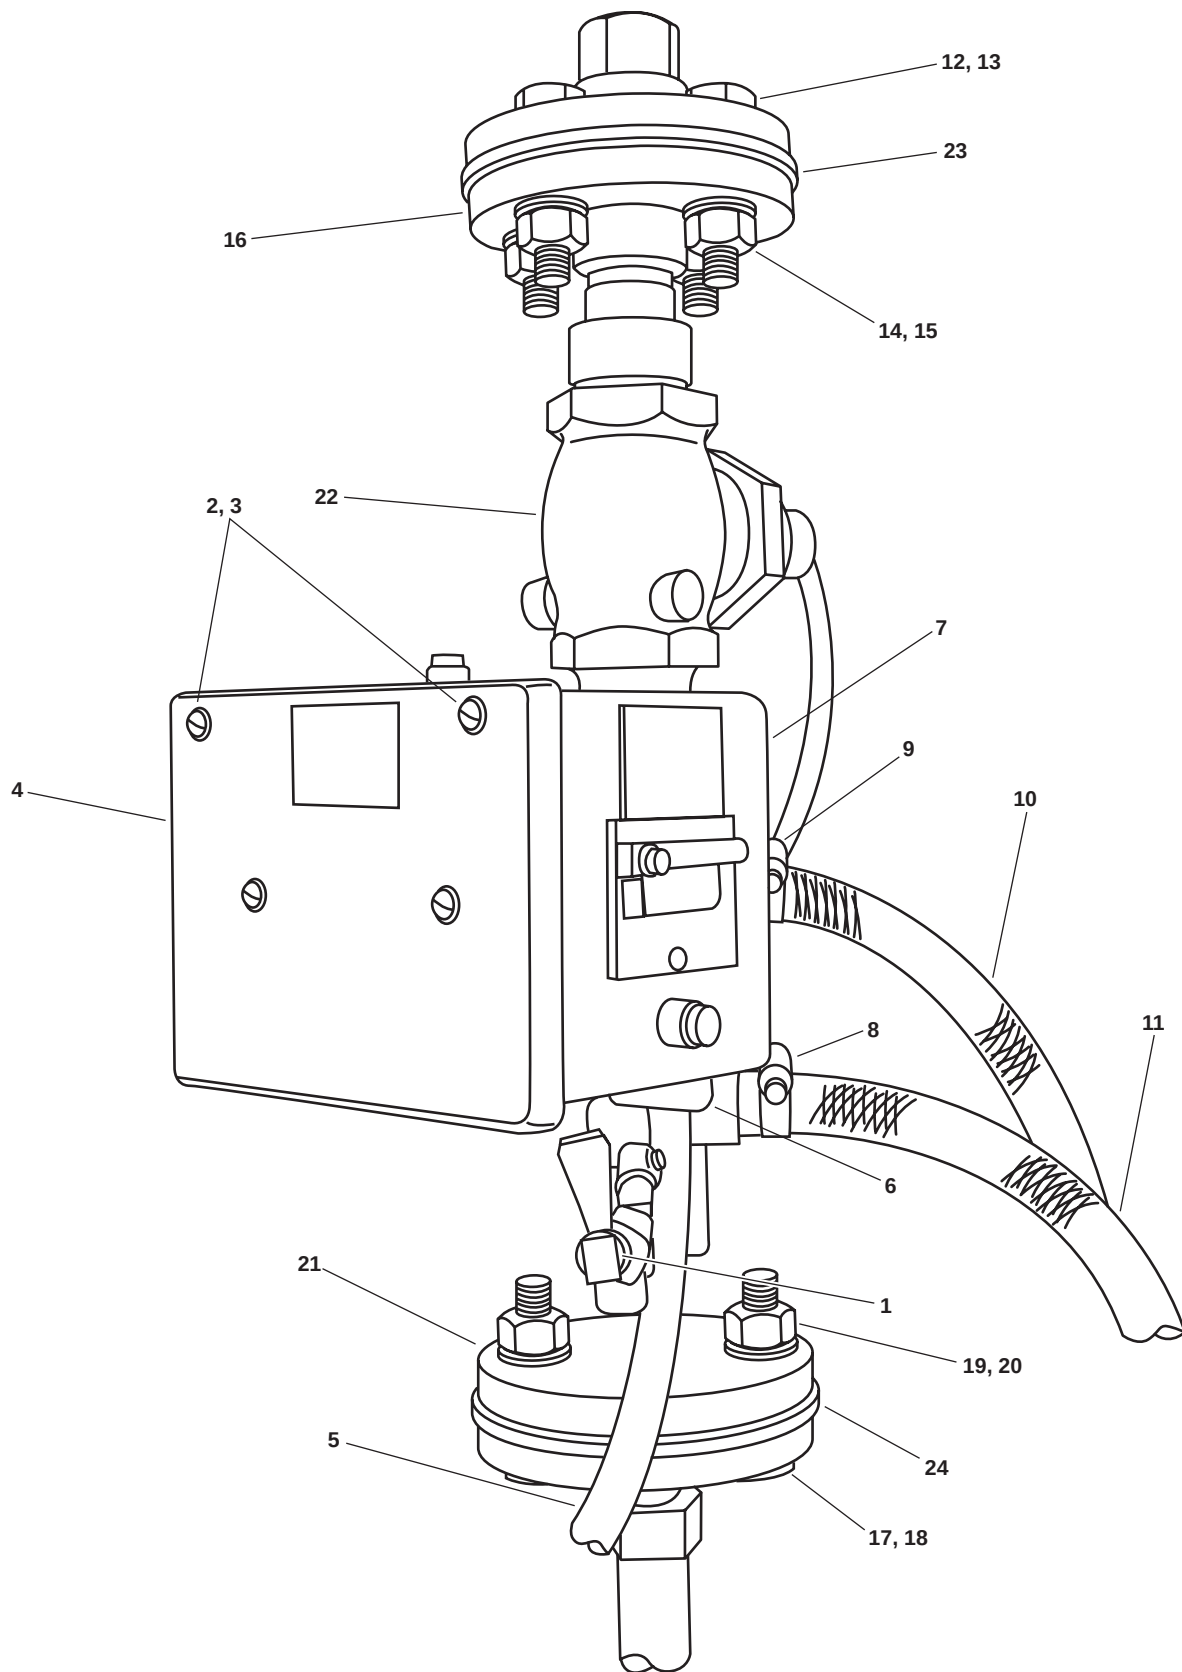

Figure 1. Cartridge Change Indicator/Brominator
1. Place the suitable drain pan under the test tap (figure 1, item 1), and OPEN the test tap.
3. Remove the two screws (figure 1, item 2) and two washers (figure 1, item 3), and OPEN the cartridge change indicator cover (figure 1, item 4).
5. Label and disconnect the electrical wiring (figure 1, item 5).
6. Loosen the screw on the strain relief (figure 1, item 6) and remove the wiring from the cartridge change indicator (figure 1, item 7).
7. Loosen the two hose clamps (figure 1, items 8 and 9) and disconnect the hoses (figure 1, items 10 and 11). Drain the fluid from the hoses into the suitable drain pan.
8. Remove the four bolts (figure 1, item 12), four flat washers (figure 1, item 13), four lockwashers (figure 1, item 14), and four nuts (figure 1, item 15) from the brominator inlet flange (figure 1, item 16). Discard the lockwashers.
9. Remove the four bolts (figure 1, item 17), four flat washers (figure 1, item 18), four lockwashers (figure 1, item 19), and four nuts (figure 1, item 20) from the brominator outlet flange (figure 1, item 21). Discard the lockwashers.
10. Remove the brominator assembly (figure 1, item 22) from the vessel's piping and discard the gaskets (figure 1, items 23 and 24).